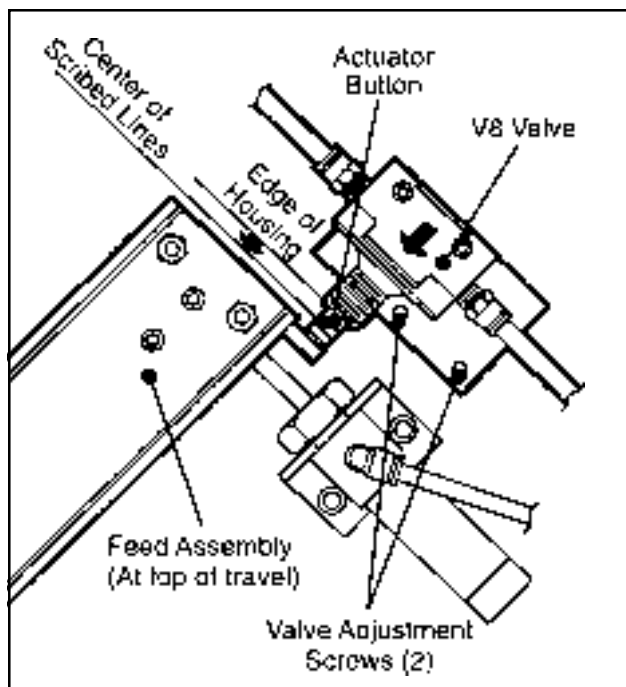

Figure 5-1 – V-8 Valve Adjustment
There are two lines scribed on the actuator button of the valve. Correct adjustment of valve places the middle of these two lines at the edge of the actuator button housing when feed assembly is at top of travel (see Figure 5-1). Loosen valve adjustment screws (2), slide valve up or down to obtain this adjustment and tighten screws. Be sure feed assembly is held at top of travel when making valve adjustment.